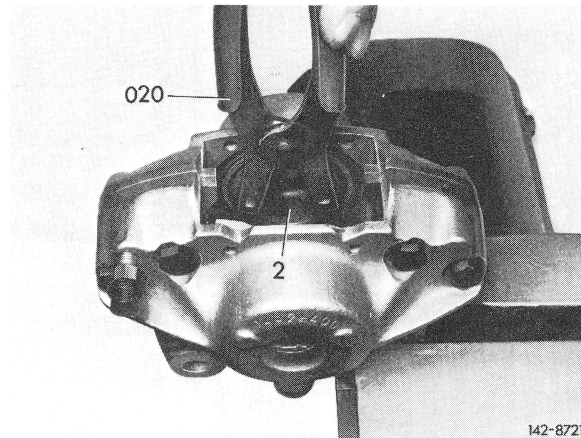

Fig. 13
**11** If required, move piston into correct position with piston rotating pliers (020) (Fig. 13).